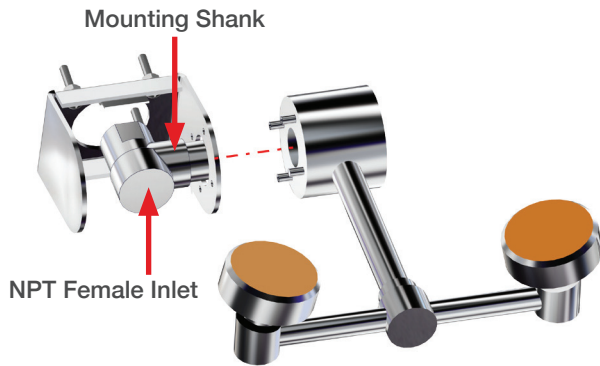

Figure 5: Locate NPT female Inlet and Mounting Shank
3. After attaching the housing to the sink basin, separate the 1/2" NPT female inlet and mounting shank from the eye wash unit. Place these within the housing. See Figure 5.